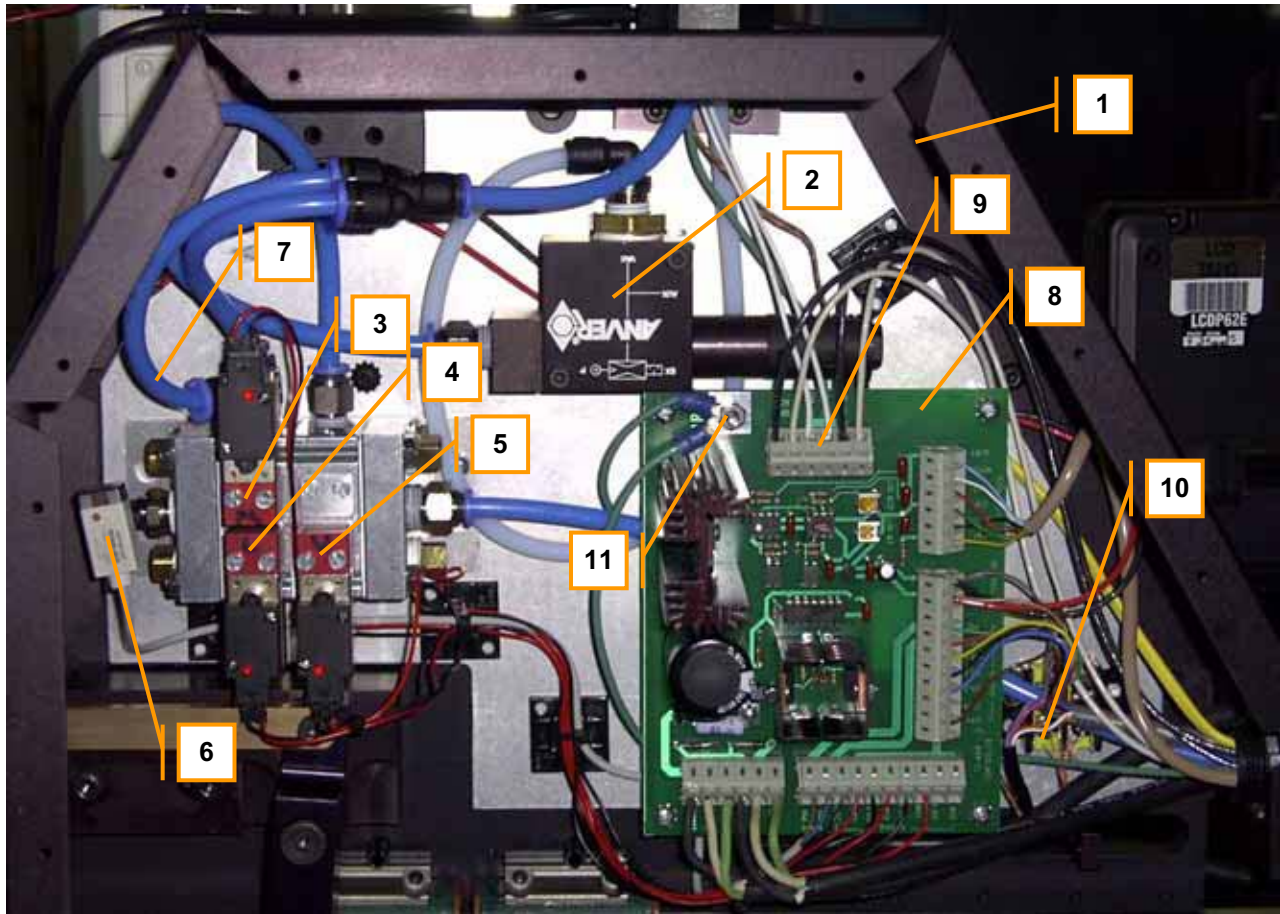

Figure 30: Rear Head Enclosure Details
Interchangeable vacuum tips (1), which may or may not have a silicone vacuum cup (2), are screwed into the vacuum stem (3) with #10-32 threads. The vacuum transfer tube (4) pipes the vacuum from the tubing (5) to through the lower heater housing (6) to the stem. A vacuum generator (Item 2, Fig. 30), generates the vacuum pressure. A leak anywhere in this system may cause weak vacuum at the tip.